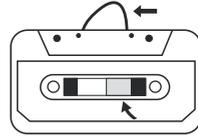

Fig. 1
- Check that there are no loose layers of tape visible through the cassette centre window (see Fig.1). Take up any loose layers, using a pencil or hexagonal barrelled ballpoint pen, before inserting the cassette into the machine (see Fig.2).